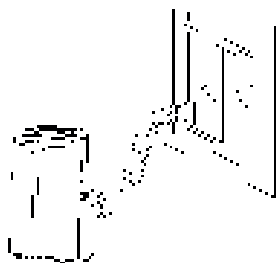

Fig. 3
2) Elongate the exhaust pipe and snap the flat end of the exhaust pipe joints into the hole of the window sealing plate assembly (as shown in Fig.3 and Fig.4) .